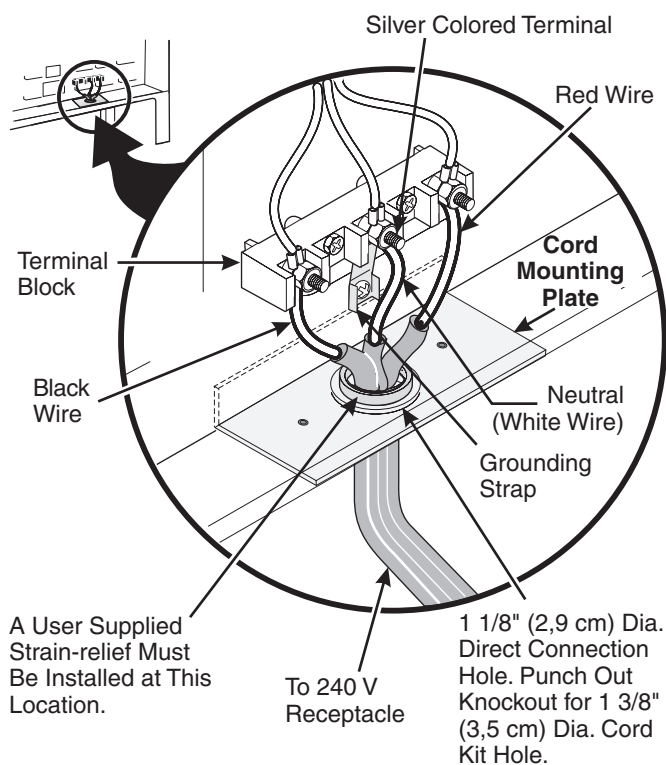

Figure 8
NOTE: Electric Range is shipped from factory with 1 $\frac{1}{8}$ " (2,9 cm) dia. hole as shown on figure 8. If a larger hole is required, punch out the knockout.
If local codes permit connection of the frame grounding conductor to the neutral wire of the copper power supply cord (see Figure 8):
2. Using the nuts supplied in the literature package, connect the neutral of the copper power supply cord to the center silver-colored terminal of the terminal block, and connect the other wires to the outer terminals. Match wires and terminals by color (red wires connected to the right terminal, black wires connected to the left terminal) (see figure 8).